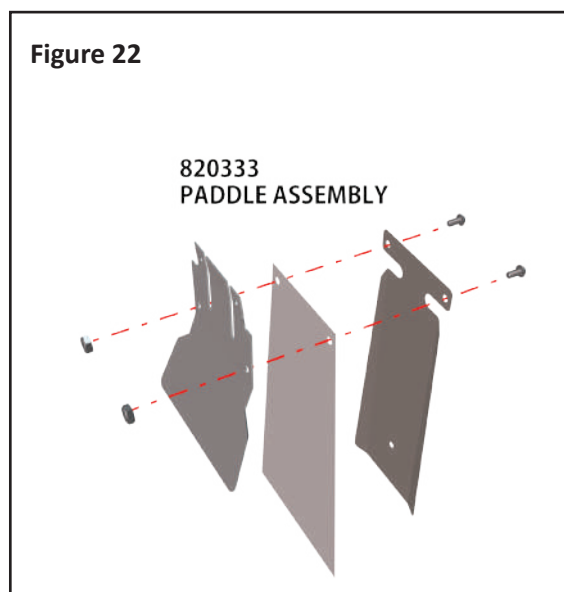

Figure 22
8. Remove the two screws from the paddle assembly, as shown in Figure 22.